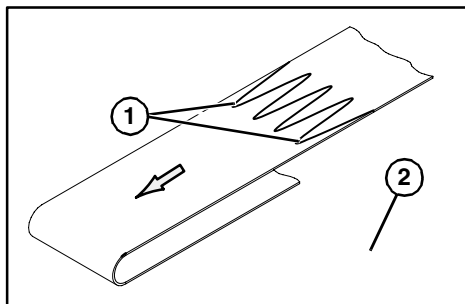

Figure 31
1. Orient belt so splice leading fingers (**Figure 31, item 1**) point in the direction of belt travel as identified by the conveyor directional label (**Figure 31, item 2**).
2. Orient belt so splice leading fingers (**Figure 31, item 1**) point in the direction of belt travel as identified by the conveyor directional label (**Figure 31, item 2**).